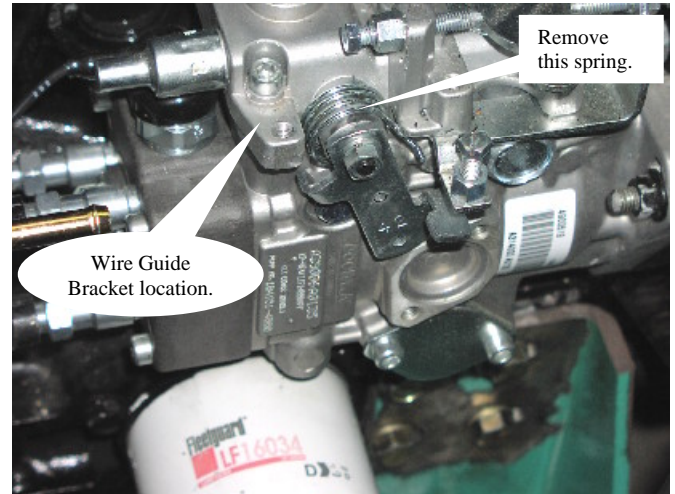

Figure 1
2. If there is a Wire Guide Bracket attached to the pump, it must be removed. Be sure to replace the two bolts after removing this bracket (see Figure 1).
3. If the Run/Stop Lever has a tension spring on it, release the tension from this spring and cut this spring off. It is not a good idea to leave this spring dangling in the vicinity of the Run/Stop Lever as it could interrupt the smooth operation of the electric actuator (see Figure 1).